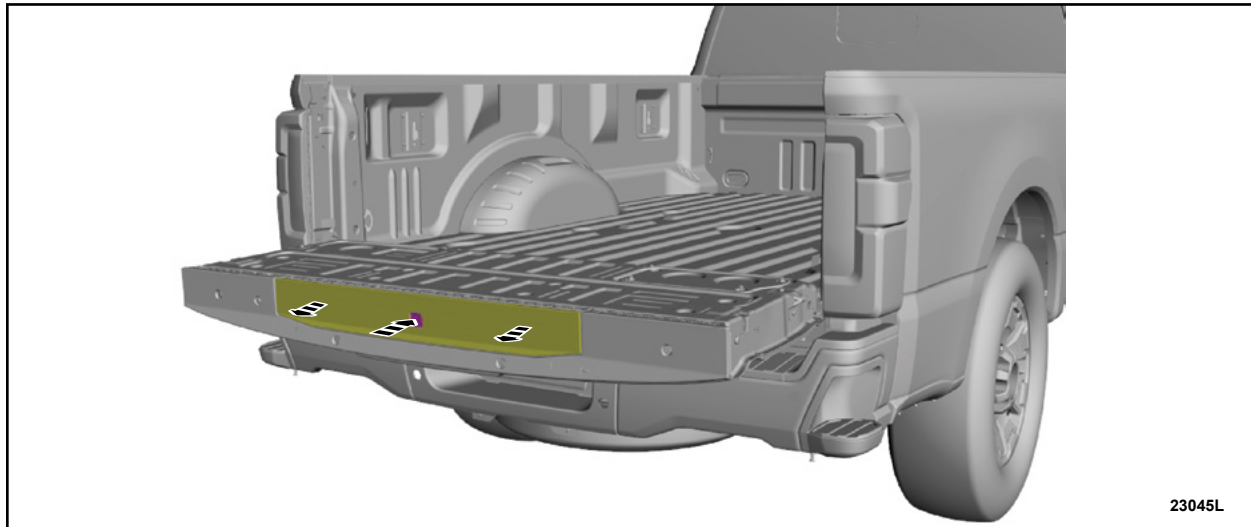

FIGURE 1
2. Push the tailgate step release button and open the tailgate step. See Figure 1.